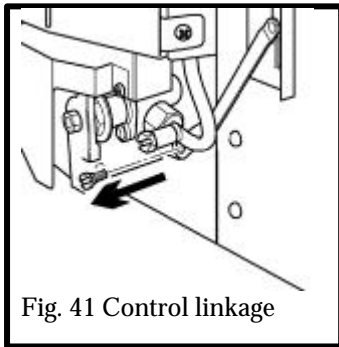

Fig. 41 Control linkage
13.5.3 Disconnect the control linkage by removing the knurled screw which connects the control linking bar with the control pivot unit (see figure 41)